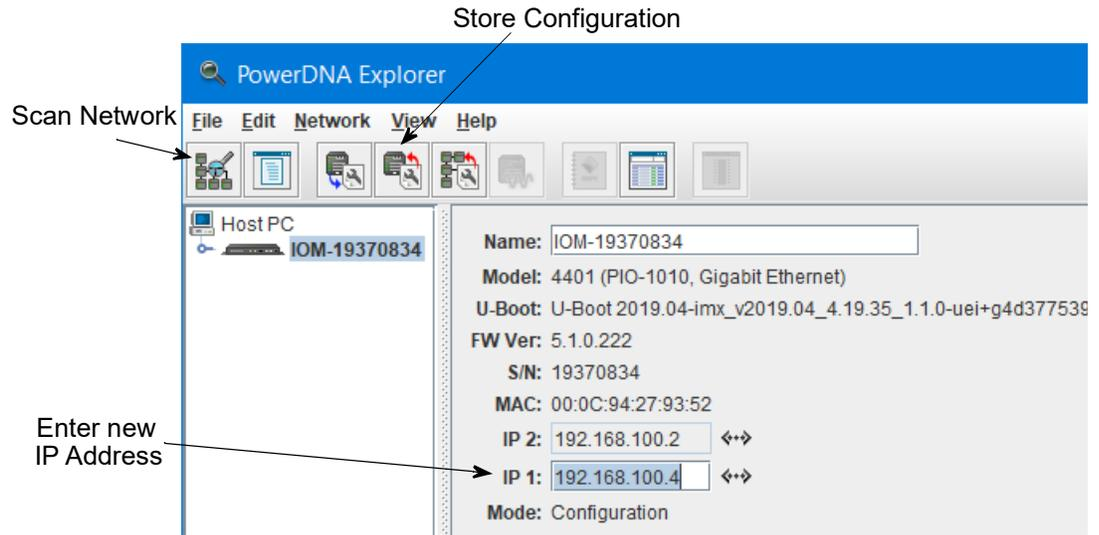

Figure 3-12. Using PowerDNA Explorer to Change IP Address
- STEP 4:** Type the new IP Address in the **IP 1** field (**Figure 3-12**) and press **Enter** on your keyboard.